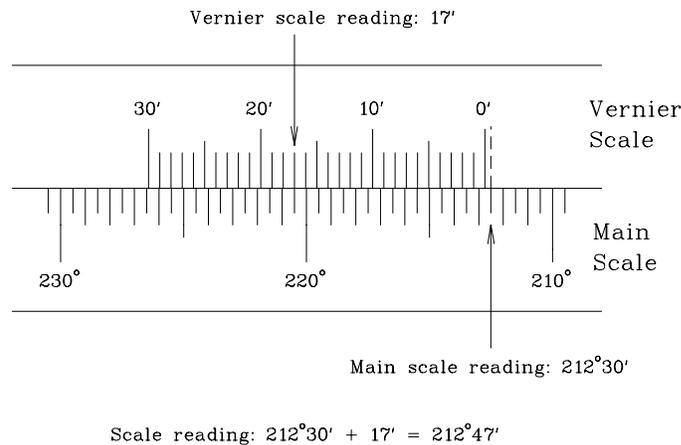

Figure 5.3: Example of Angular Vernier Scale Reading — 212°47'
1. Locate the “0” line on the vernier scale, and note which main scale division it is immediately after; e.g. 212°30' on the main scale in Figure 5.3. Note that the numbers on the main and vernier scales increase from right to left, and not from left to right as you are used to reading.
2. Scan along the line where the main and vernier scales meet, and note which *one* vernier scale division is directly in line with a main scale division, e.g. 17' on the vernier scale in Figure 5.3.
3. Add the main and vernier scale readings to obtain the angular scale reading, e.g. 212°30' + 17' = 212°47' in Figure 5.3.